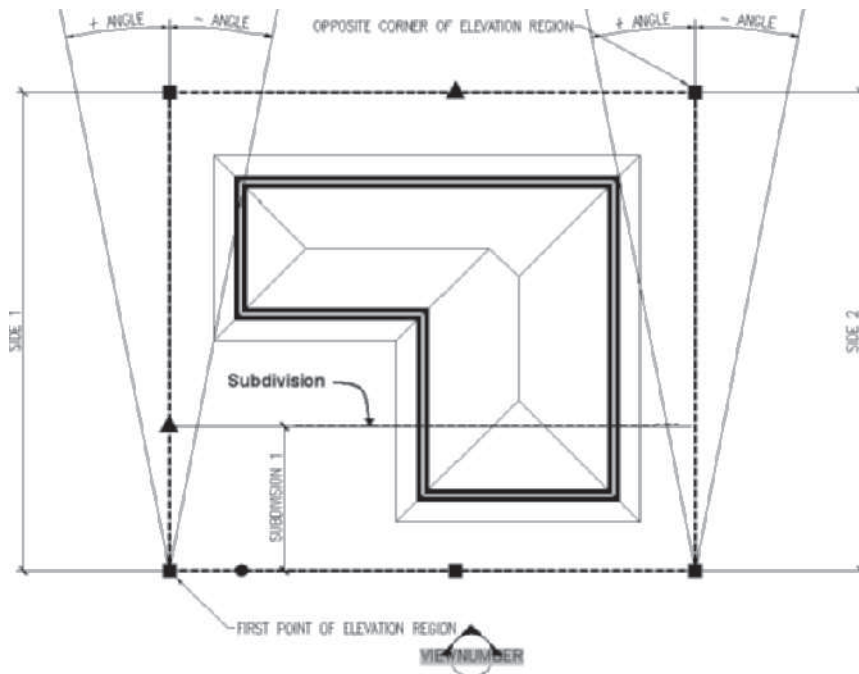
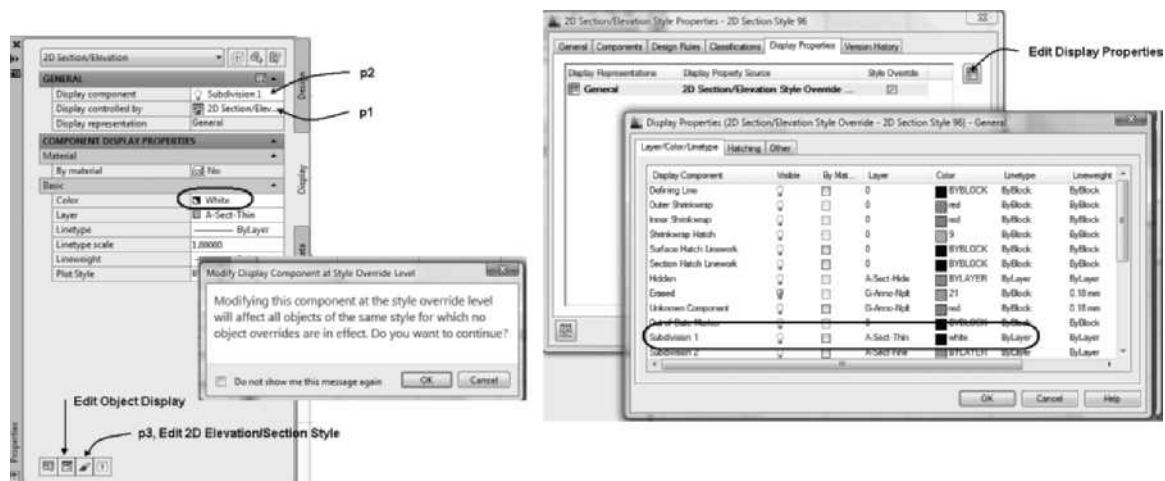

FIGURE 12.15 Dimensions of the building elevation line
FIGURE 12.18 Display Controlled by the Properties palette and the Display Properties dialog box
13. A summary of the dimensions of the Building Elevation/Section line are shown in Figure 12.15.
The display of the elevation can be controlled by its **Object Display** or by creating elevation styles. The Object Display and elevation styles control display by assigning display components that govern the appearance of the elevation. The material hatching displayed in the final elevation is extracted from the material assignments of the objects selected from the model. Therefore, if a wall style includes brick veneer with brick assigned as a material, the resulting elevation will be hatched in brick. Since the materials are usually assigned in a Construct drawing, to change the elevation you must edit the Construct drawing and update the elevation to implement a material hatch change. The display of material hatching in the elevation is controlled by the **Surface Hatch Linework** component of the elevation as shown in the **Display Properties** dialog box of Figure 12.18. If the Surface Hatch Linework component is turned off, the visibility of the Surface Hatch Linework in the elevation will be removed and only the defining lines of the elevation will be displayed.
Therefore, you can control the display of the components within the elevation by editing object display in the Style Manager or the Display tab of the Properties palette. The Display tab of the Properties palette provides the following options in the Display Controlled by flyout shown at **p1** in Figure 12.18:
When you select this Object or 2D Section/Elevation style from the Display controlled by list, you can click the Display component flyout (p2 of Figure 12.18) to select a component for edit. The Subdivision 1 display component has been selected therefore you can modify display in the Component Display Properties section. The color was modified to White as shown in the Properties palette.
You can choose Edit 2D Elevation/Section Style at p3 in Figure 12.18 to open the 2D Section/Elevation Style Properties – 2D Section Style 96 dialog box. Choose the Edit Display Properties button to open the Display Properties dialog box. The display components are listed in the far left column of the **Layer/Color/Linetype** tab. When the elevation is created, the edges of objects in the model drawing are projected to create lines placed on the **Defining Line** component. The subdivisions listed in Figure 12.18 are assigned by creating subdivisions in the building elevation line as shown in Figure 12.15. Therefore, you could create a subdivision within 10 feet of the building elevation line. All objects projected from this zone are placed in the elevation object with the color, layer, linetype, and lineweight as defined by the Subdivision 1 in the **Layer/Color/Linetype** tab shown in Figure 12.18. The color of the objects within Subdivision 1 will be displayed white since it is defined in Display Properties dialog box of Figure 12.18. The lineweight of Subdivision 1 could be set wider to display the objects within Subdivision 1 with greater emphasis. The color, layer, linetype, and lineweight of each component listed can be changed in the **Layer/Color/Linetype** tab. The **Other** tab allows you to create additional custom display components.